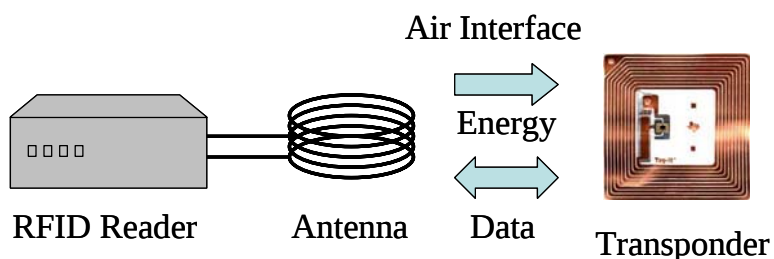

Figure 1. Essential components of an RFID system
One of latest developments in intelligent (or smart) packaging is the use of RFID. Although the basic principles on which RFID technology relies on are relatively old [1], the implementation of RFID in the supply chain has seen an exponential growth over the past few years. This growth is expected to continue as the technology moves down to item level tagging. In 2006, market analysts foresee the sale of 1.3 billion tags for a total RFID market value including systems and services of \$2.77 billion [2]. By 2010 the market value is even expected to exceed \$12 billion. One of the inherent advantages of the new technology versus the historical bar code is the fact that the reader does not require direct line-of-sight to the tag. Figure 1 presents a schematic view of an RFID system and its components. The main frequencies at which the RFID chip operates for supply chain applications include “high frequency” (HF) at 13.56MHz and the “ultra high frequency” (UHF) ranging from 868 to 930MHz.